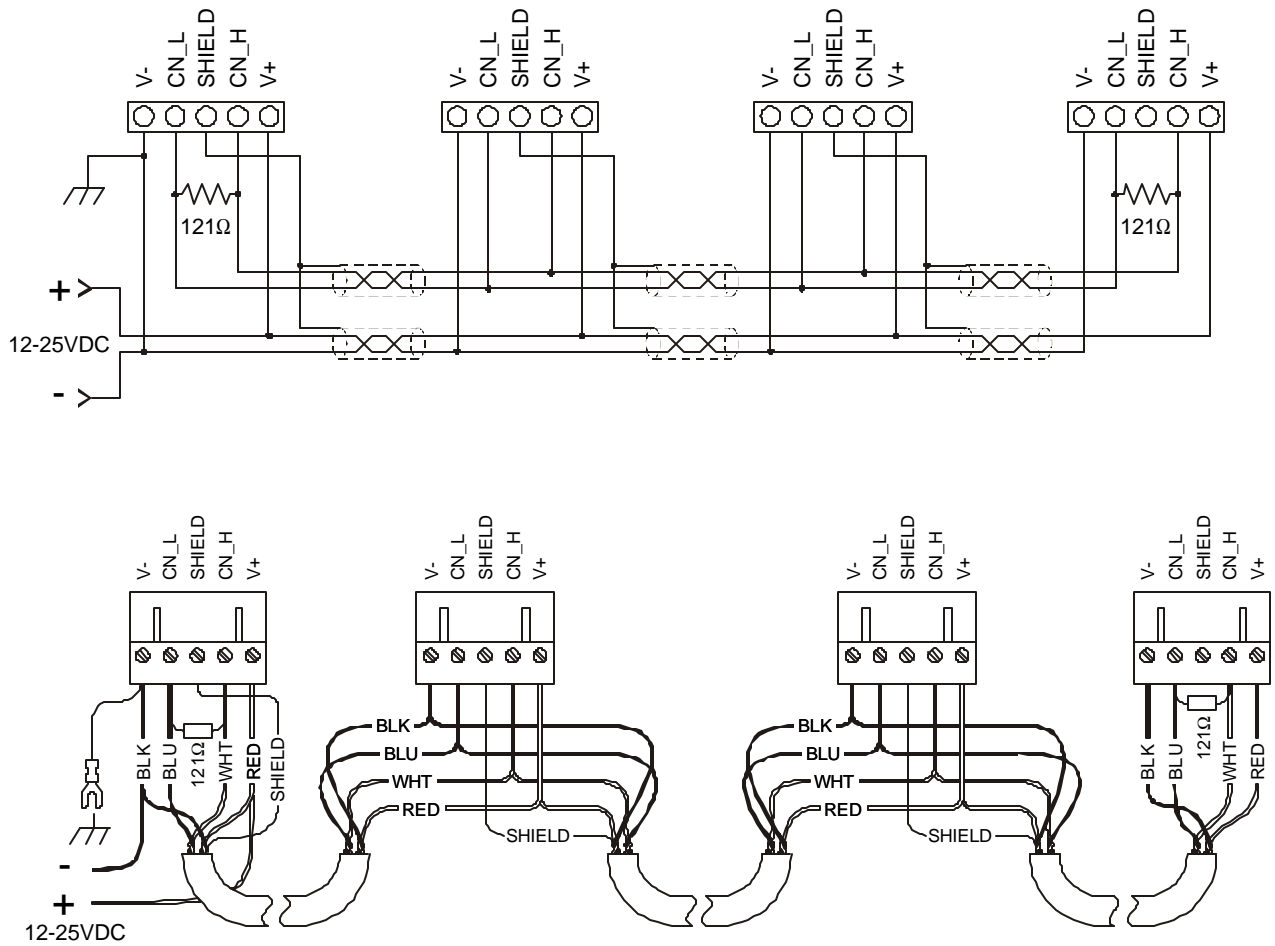

Figure 2.3 – CAN Wiring
4. Revised Figure 2.3 and Section 2.4.1.
5. Revised Section 3.1.1, item 9.
a. **CAN Wiring Rules** (See Figure 2.3.)